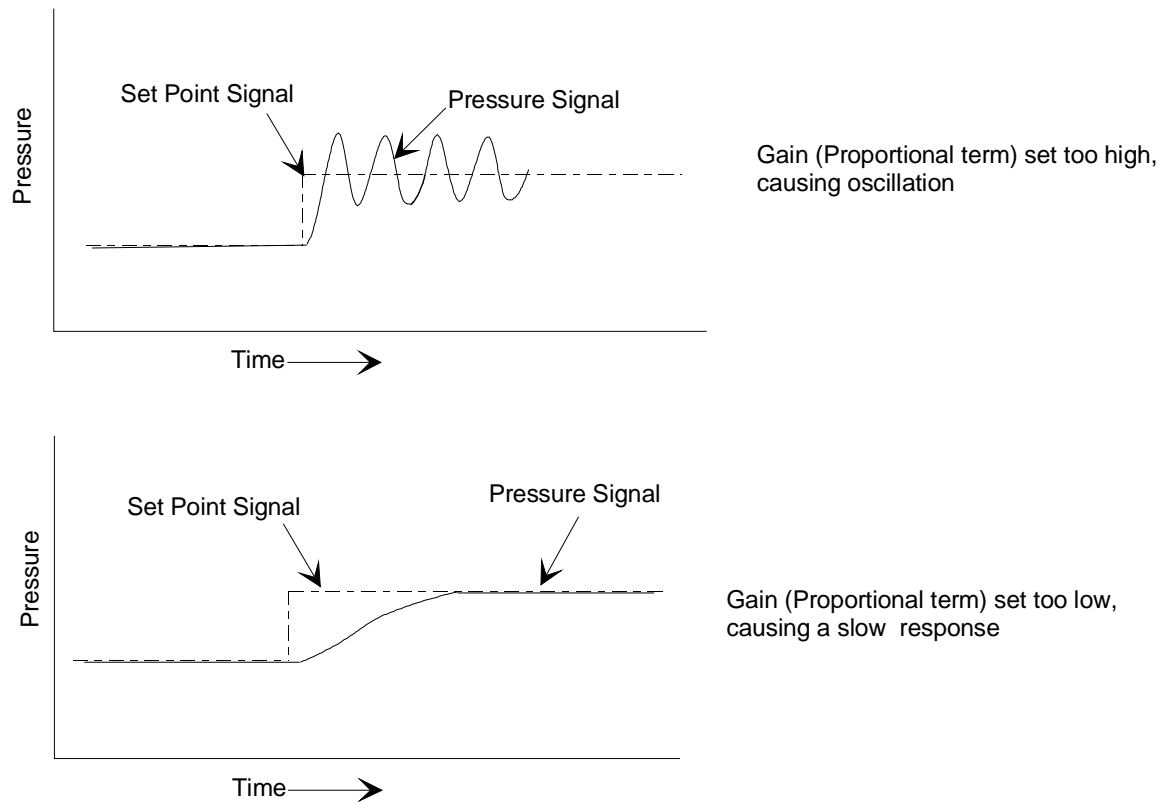

Figure 8: Effects of the Proportional Control
The Proportional (P), or gain, term is used as a constant to create a valve drive signal that is proportional to the error signal. The error signal is multiplied by the proportional control setting, thus creating a proportional valve drive signal. The higher the proportional control, the greater the change in valve drive signal. Typically, a higher proportional control setting yields a faster response. However, too high a proportional control setting will cause the pressure to oscillate around the set point. Too low a proportional control setting will result in a slow response from the controller. Figure 8 shows the effects of the Proportional term.